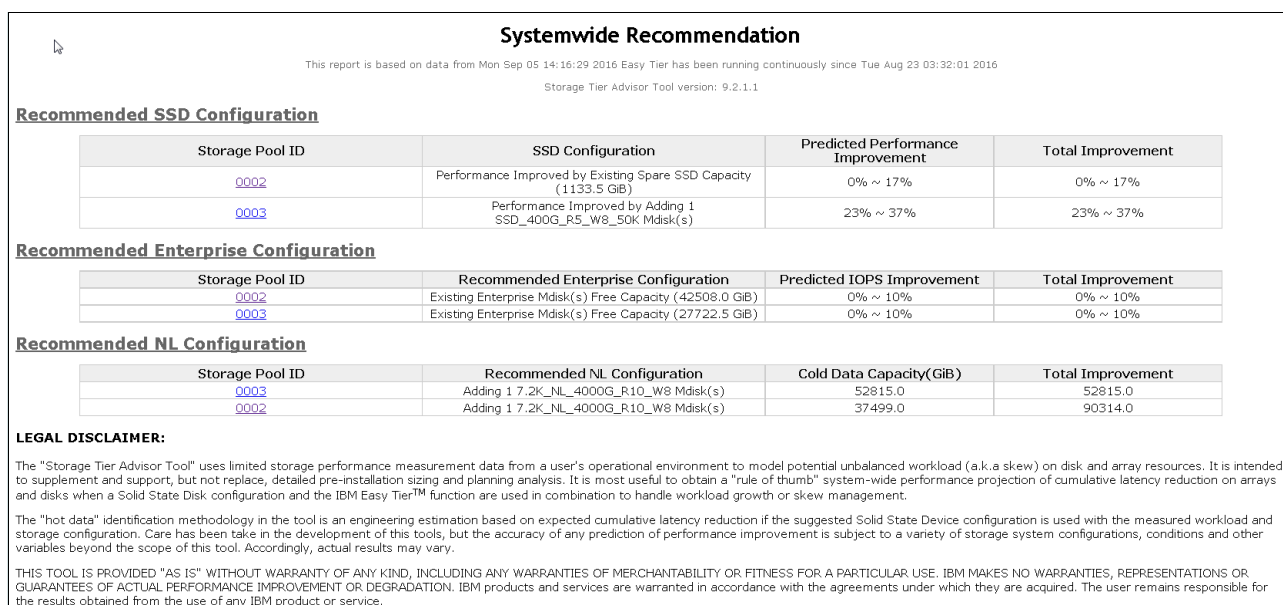

Figure 7-15 Systemwide Recommendation window
Figure 7-15 shows the Systemwide Recommendation window, which is opened by selecting the **Systemwide Recommendation** link in the left pane.
If the system-wide recommendation suggests adding capacity, array specifications, including drive sizes, RAID levels, and characteristics, are also shown. For the extent pool ID 0003 of the Recommended flash configuration table in Figure 7-15, the *Performance Improved by Adding 1 SSD_400G_R5_W8_50K* item indicates capacity from arrays with a 400 GB SSDs, RAID 5, and Width 8 (which means eight data drives+Parity) configuration.
- ▶ The predicted system performance improvement percentage compared to the previous configuration (as shown in Figure 7-15 on page 331).